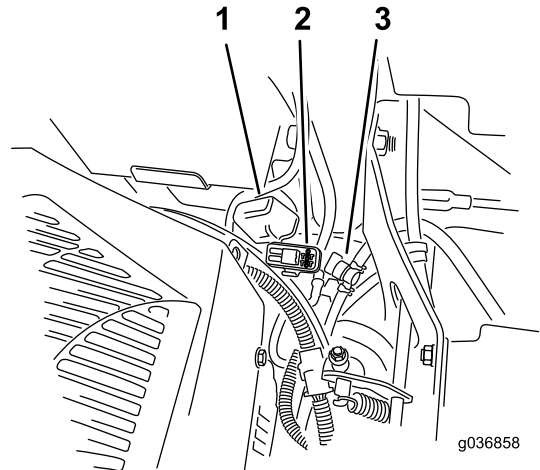

Figure 57
The fuses are located on the right console next to the seat (Figure 57).
2. Install a new fuse (Figure 57).